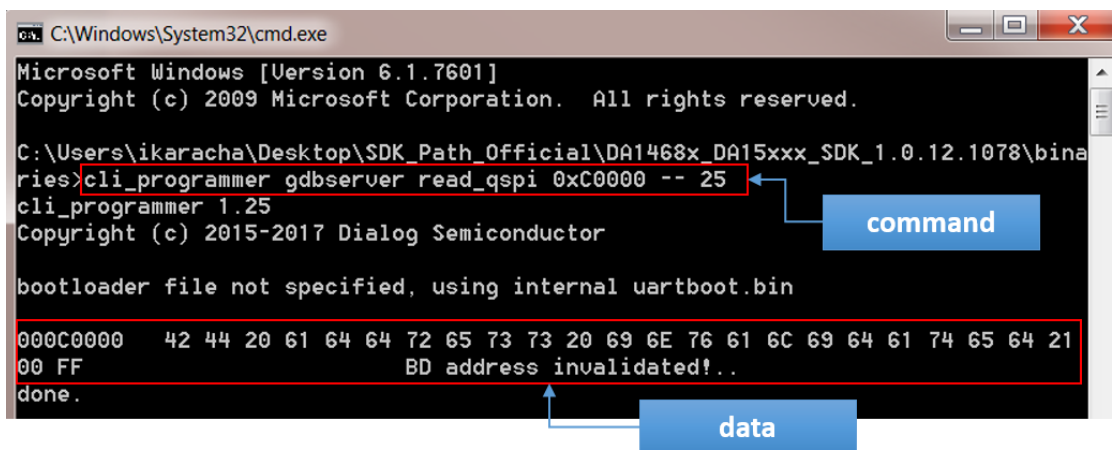

Figure 26: Reading Flash Contents with the CLI Programmer
1. With the system up and running, start the gdbserver (J-link GDB Sever) using the configuration shown in Figure 26.